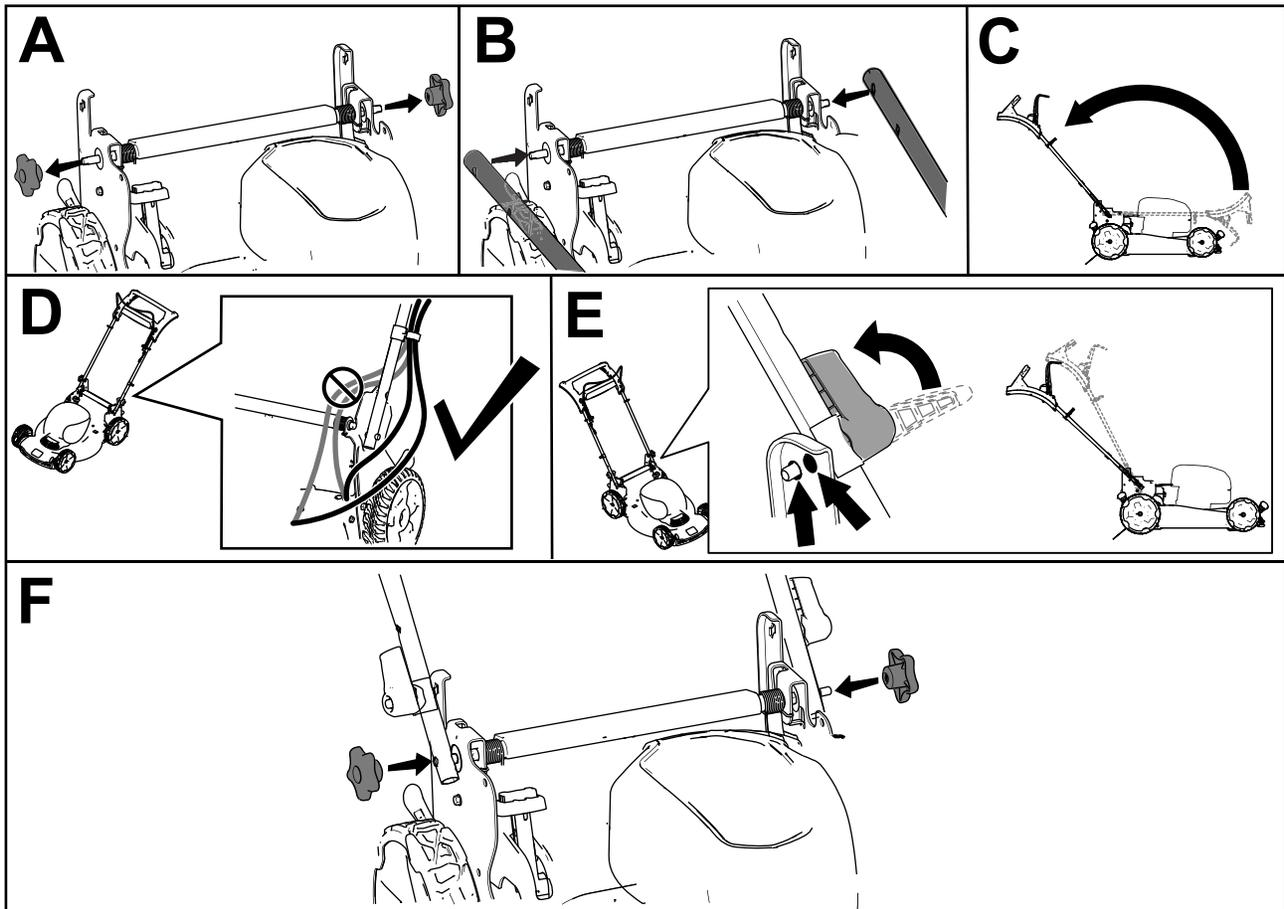

Figure 4
**Note:** Ensure that the cables are routed on the outside of the handle and are not pinched (D of Figure 4).